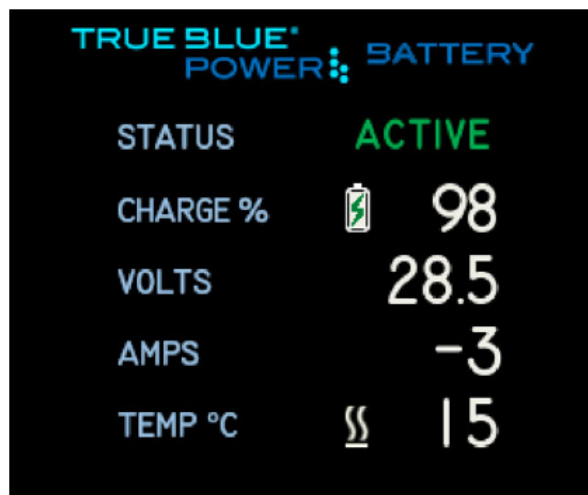

FIGURE 9-1: MD23 ACTIVE INDICATION
- Verify MD23 (Figure 9-1) indicates ACTIVE, Charge % > 72, VOLTS > 27.6, TEMP > 0 after heat cycle.